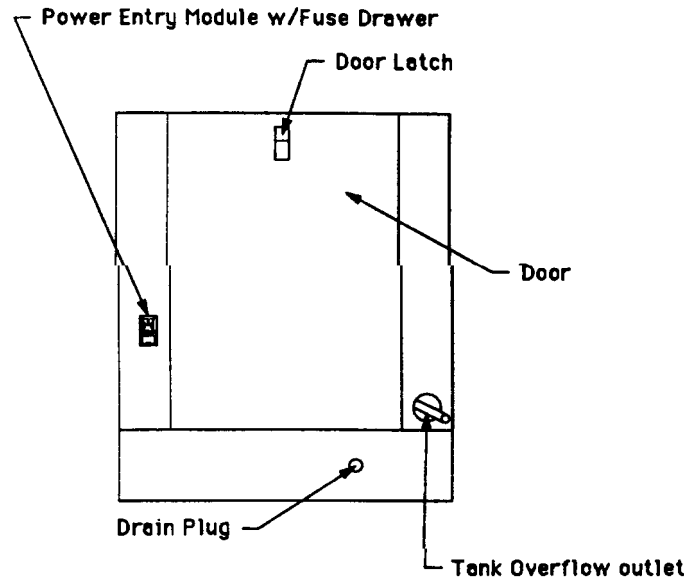
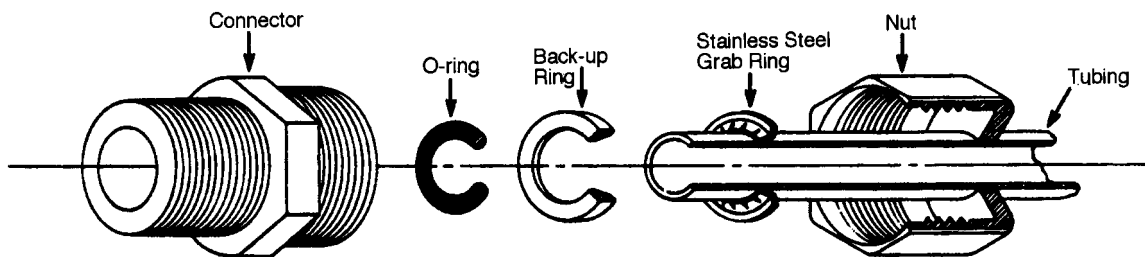

Figure 2 EASYpure UF Back
Figure 3 Typical Polypropylene Tubing Installation
1. Completely disassemble the fitting. Refer to Figure 3 to familiarize yourself with the names of the component parts.
3. Place the grab ring and back-up ring in the hex nut in the order and orientation shown in Figure 3. Thread the nut onto the adapter. **DO NOT** use the o-ring at this time.
1. Locate the reject water tubing. This is the piece of  $\frac{1}{4}$ " O.D. tubing that has an adapter on one end and no connector on the other end. Remove the nut, grab ring, backup ring and o-ring from the reject water fitting located at the lower right of the unit. (See Figure 3 for part identification and Figure 2 for fitting location.)